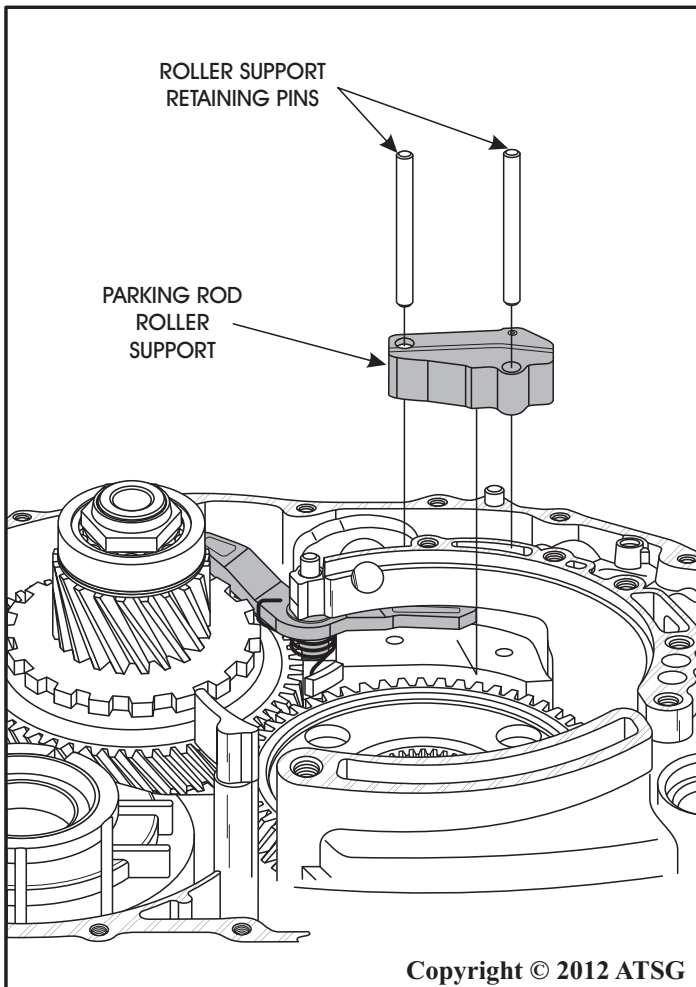

Figure 284
87. Install the parking rod roller support into the case, as shown in Figure 284.
88. Install both parking rod roller support retaining pins, as shown in Figure 284.